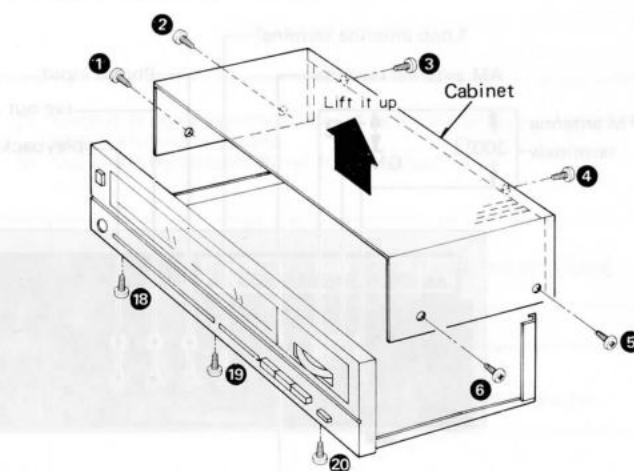

Fig. 1
1. Remove the 6 setscrews (Fig. 1: ① ~ ⑥) of the cabinet.
2. Remove the 3 setscrews (Fig. 1: ⑱ ~ ⑳) of the front panel.